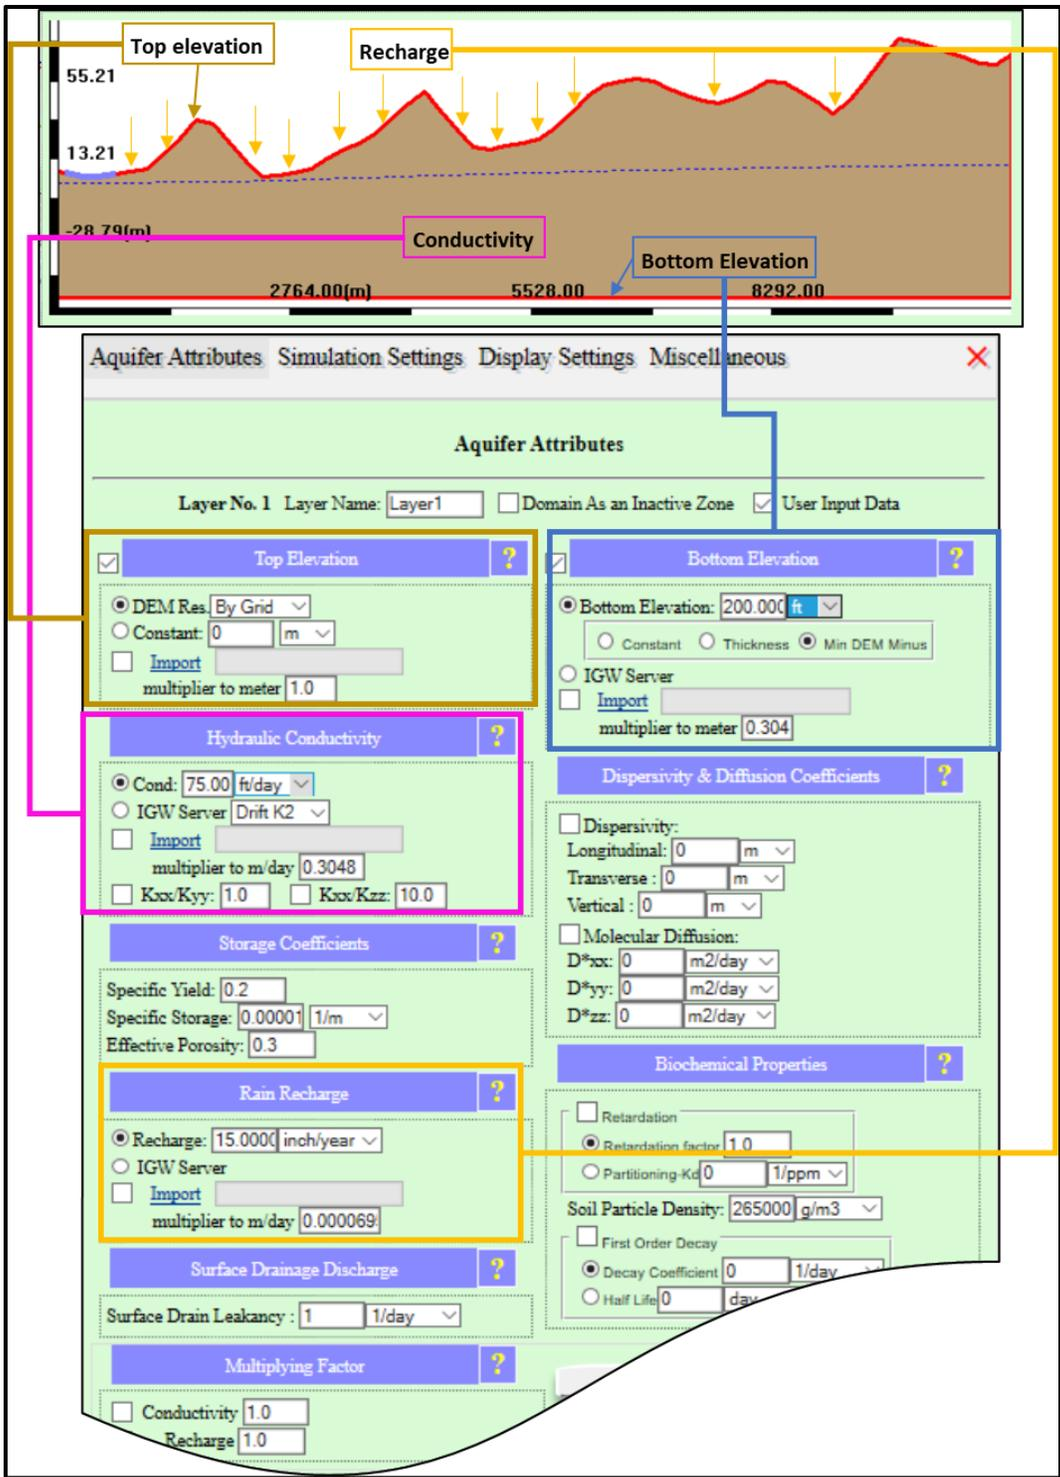

Figure B2: Assigning input as single, effective values using the Default Model Input Parameters and Display Options menu (with the exception of DEM).
- Step 2 – assign input parameters as single, effective values* (Figure B2).